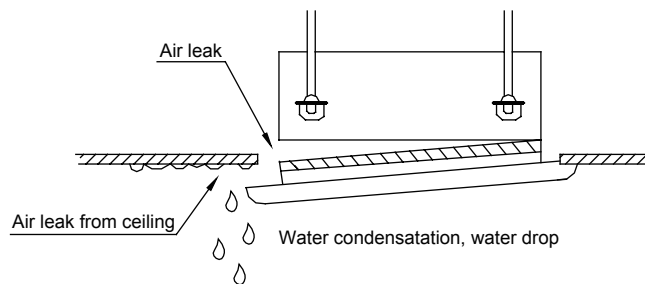

Fig.14
1). Improper tightening of the screws may cause the problems shown in Fig.14.